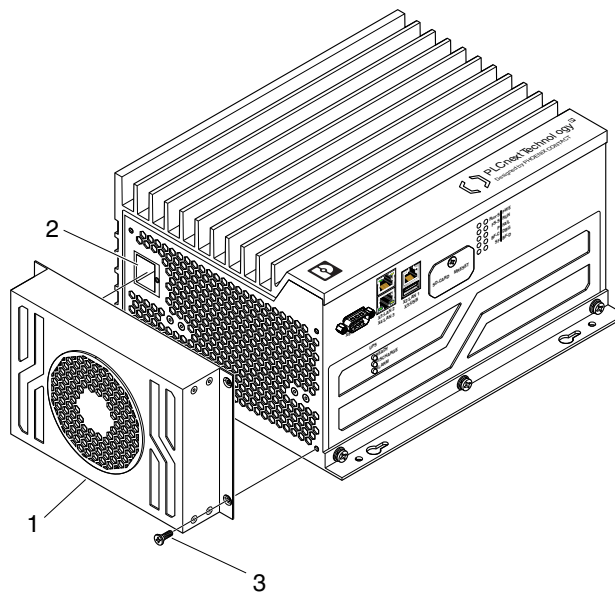

Figure 10-3 Removing the BPC 9102 FAN KIT fan kit
1. Loosen the four M4 screws (pos. 3 in Figure 10-3) and remove them.
2. Pull the feed-in plug on the rear of the fan kit from the socket (pos. 2 in Figure 10-3) on the underside of the BPC 9102S while slightly pressing on the connector snap-in latch to release the connector.
3. Position the cover plate in the housing cutout over the socket for the feed-in plug (pos. 2 in Figure 10-3).